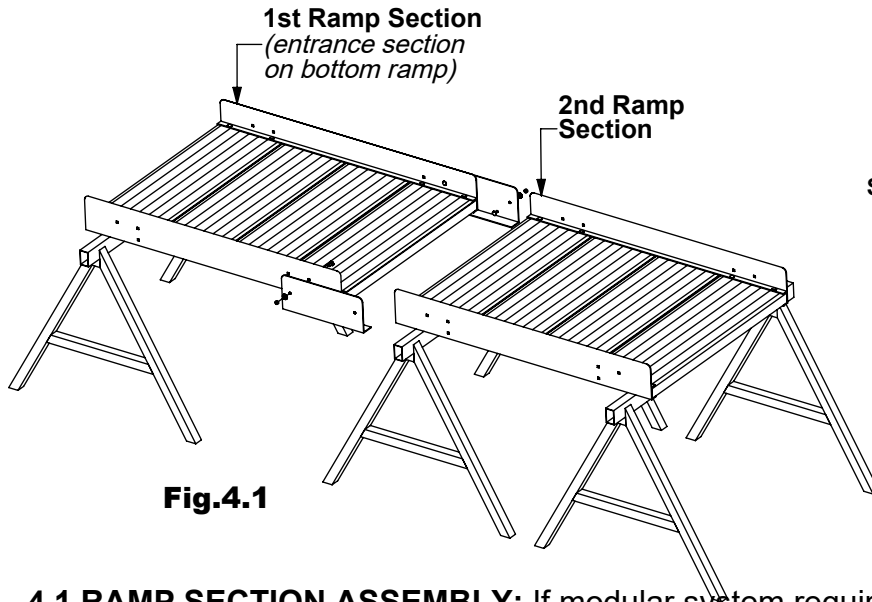
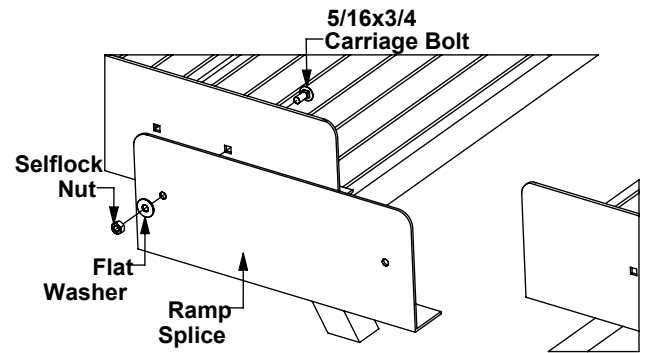

Fig.4.1
Fig.4.2
4.1 RAMP SECTION ASSEMBLY: If modular system requires platform, assemble platforms first and set in place before assembling ramp sections. Start by set the first ramp section on sawhorses (*shortest ramp section Fig.4.1*). If assembling bottom ramp run start with the entrance section. Attach a ramp splice to each side of the first section of ramp using the square holes in the ramp frame rail closest to the end of ramp section. Place ramp splice over the ramp frame rail and align the holes of the ramp splice and ramp frame rail (**Fig.4.2**). With the head of the carriage bolt to the inside of ramp section fasten with flat washer, and selflock nut. Repeat this process until the entire ramp run is complete.